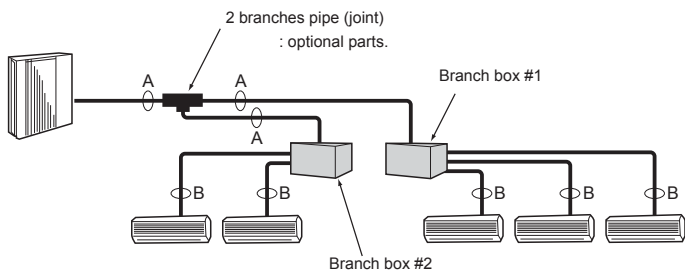

Fig. 4-4
4.3.2. Connection with Branch Box (Fig. 4-4)